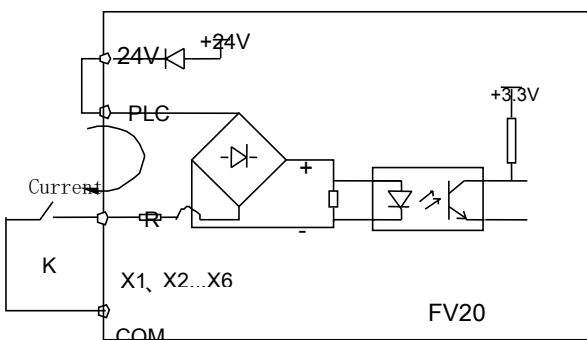

Fig.4-7 Wiring method of using the internal 24V power supply
FV20 multi-function input terminal uses a full-bridge rectifying circuit as shown in Fig.4-7. PLC is the common terminal of terminals X1~X6, The current flows through terminal PLC can be pulling current and the feeding current. Wiring of X1~X6 is flexible and the typical wiring are as follows :
1) Use the internal 24V power supply of VFD, the wiring is as in fig.4-7.